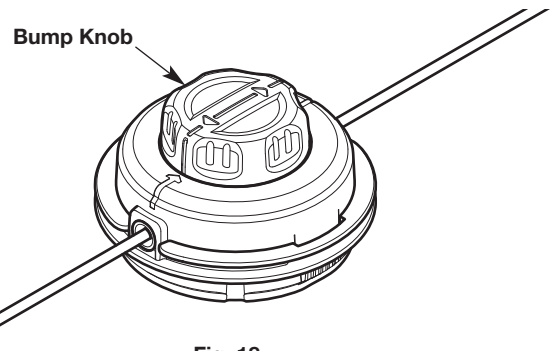

Fig. 18
- Turn the bump knob to wind the line until about 5 inches (12.5 cm) protrude from each side of the cutting head (Fig. 18).